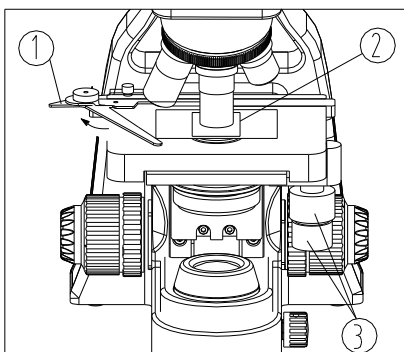

Fig.15
1. Push the wrench ① of the specimen holder backwards.
2. Place the cover glass of slide ② faced upwards into the clip, loosen the wrench ① and clamp the slide (see Fig.15).
3. Rotate the X and Y-axis knob ③ of the stage, and move the specimen to the center (aligned with the center of objective).